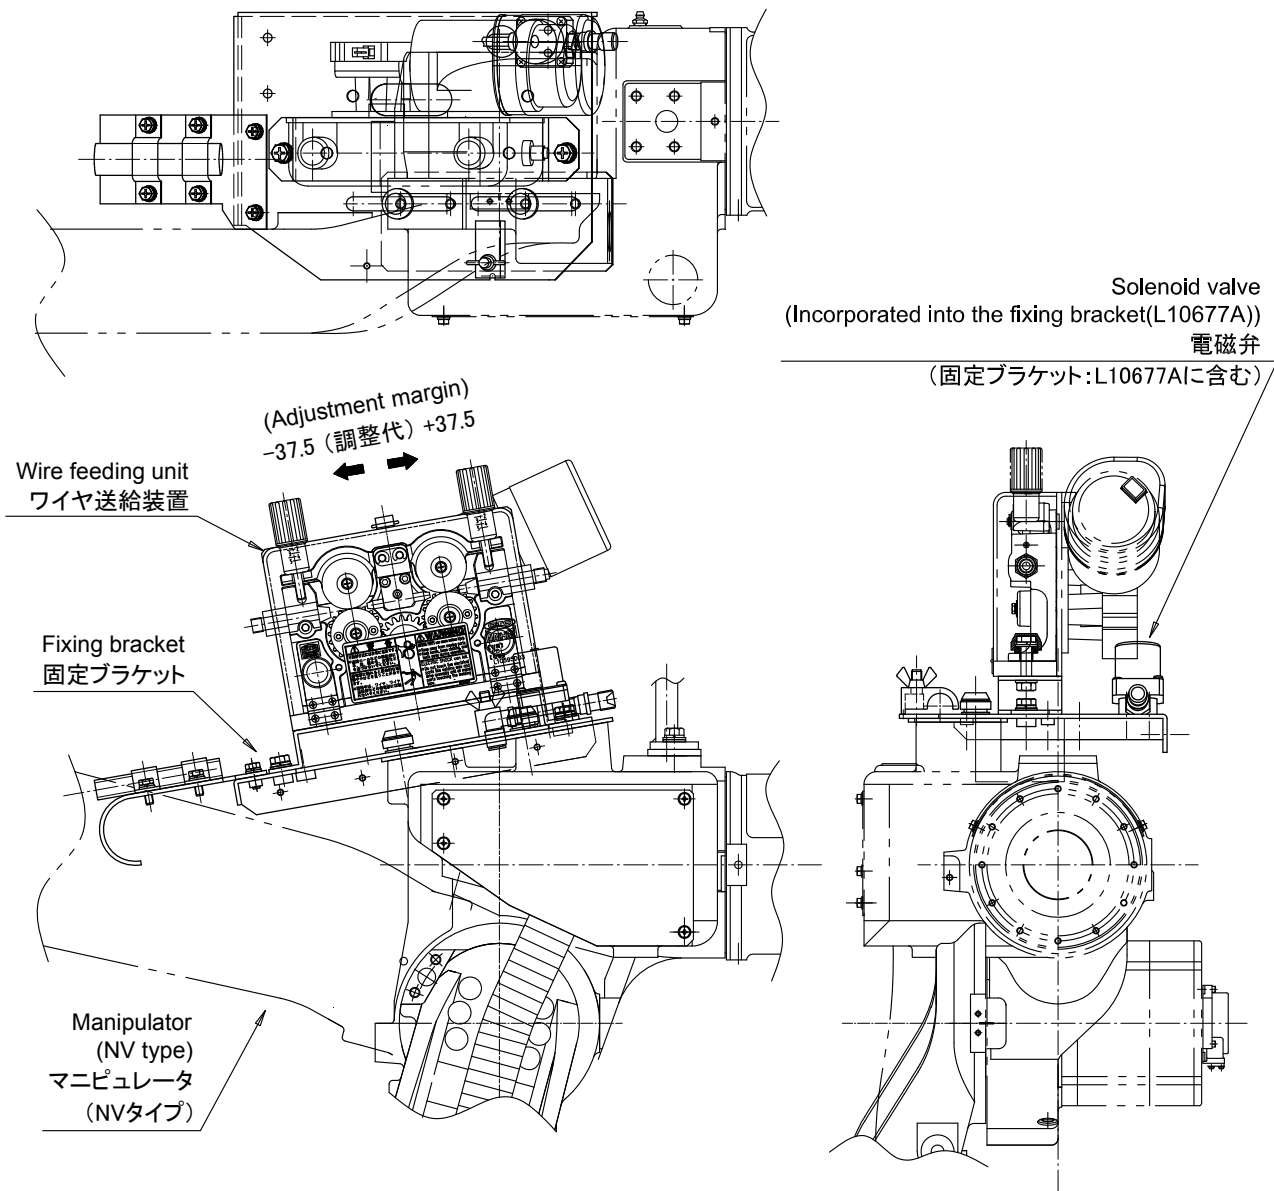

Fig. 2.1 Mounting to A II -V6 series manipulator (Procedure (1))
(1) Referring to Fig. 2.1 and 2.2, mount the fixing bracket to the wire feeding unit.
(2) Referring to Fig. 2.1 and 2.2, mount the fixing bracket onto the shoulder part of manipulator .